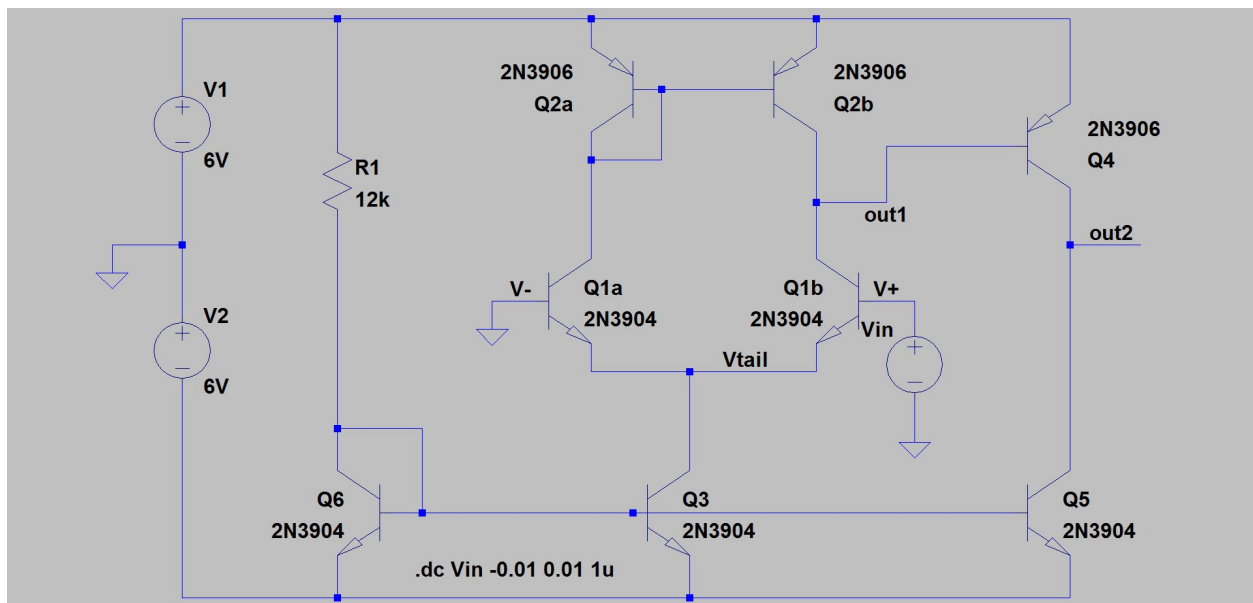

Figure 1: Lab 2 Op-Amp [File: BJTopamp.asc]
2. Use LTspice on the file BJTtopamp.asc to run a DC sweep on the amplifier in Figure 1.
- 1) Build the circuit in *Figure 1*.